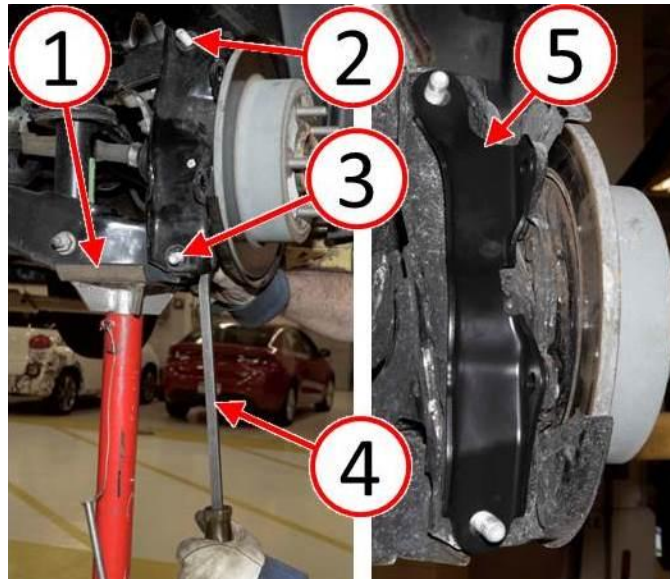

Fig. 2 Install Anti-Vibration Bracket
WARNING:To prevent personal injury and vehicle damage, use a suitable stand (1) to properly support suspension components while replacing the bolts (2 and 3) securing the control arms to the trailing link (Fig. 2).
6. Remove and discard the bolt securing the upper control arm to the trailing link (Fig. 2). Install the **NEW** bolt included with the anti-vibration bracket service kit.
NOTE: It may be helpful to use a pry bar to align the bolt holes in the lower control arm and the trailing link (Fig. 2).
7. Remove and discard the bolt securing the lower control arm to the trailing link (Fig. 2). Install the **NEW** bolt included with the anti-vibration bracket service kit.
8. Install the anti-vibration bracket to the upper and lower control arm bolts (Fig. 2).